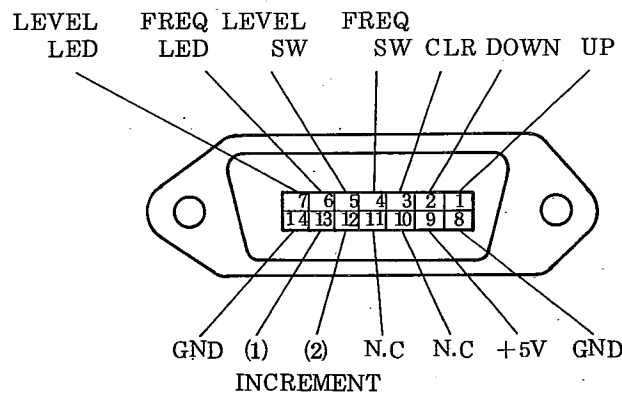

Fig. 7-1 Connector pin assignment
(1) Basic operation
- (a) Set GP-IB REMOTE/LOCAL key ② to LOCAL.
- * Start and end addresses for sequential recall of assorted preset data (see paragraph 4-9, (4)).
- * Digit to be altered for frequency modification (see paragraph 4-5, (3)).
- * Digit to be altered for output level modification (see paragraph 4-6, (4)).
- (c) Connect the cable to the MEMORY CONTROL connector on the rear panel. Fig. 7-1 shows the connector pin assignment. Use a 14-pin shielded plug--AMPHENOL-DDK plugs (Part No. 57FE-314-202W) with 2-meter flat cable, for example.